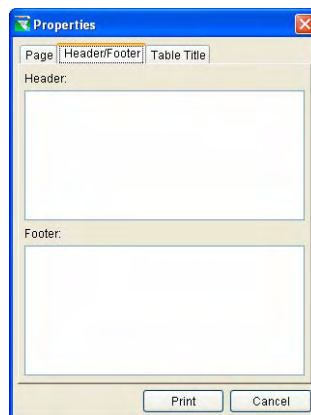

Figure 2.27 Printing Properties, Header/Footer Tab
- The **Header/Footer** tab (Figure 2.27) allows you enter a header and/or footer for the report.